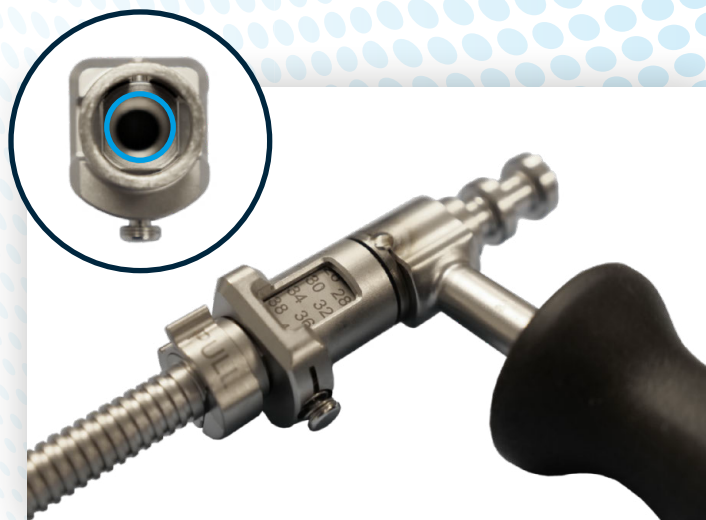

Figure 50: Top view of Depth Gauge: Lordotic Inserter seats into the inner ring and so therefore moves along with the Depth Gauge as it is being adjusted.
**Note:** Unlike how the standard OptiMesh Inserter seats on the Access Portal, the Lordotic Inserter seats in the adjustable stop of the Access Portal. (Fig. 50) Therefore, the adjustable stop needs to be correctly set to the predetermined drill depth to ensure proper placement of the OptiMesh Align XL Interbody.